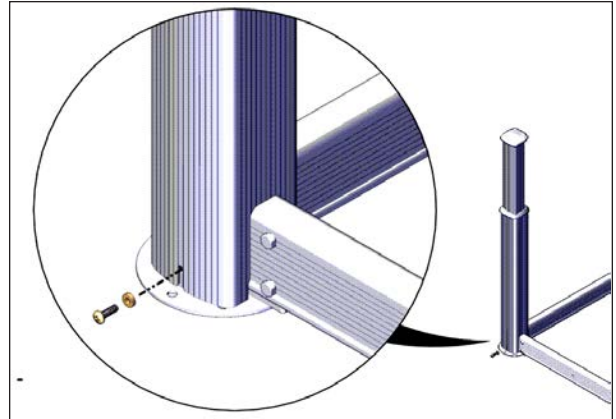

FIGURE 96: SLEEVE BOTTOM SCREW
1. Remove the lower sleeve screw. The screw is visible when facing the post see Figure 96.